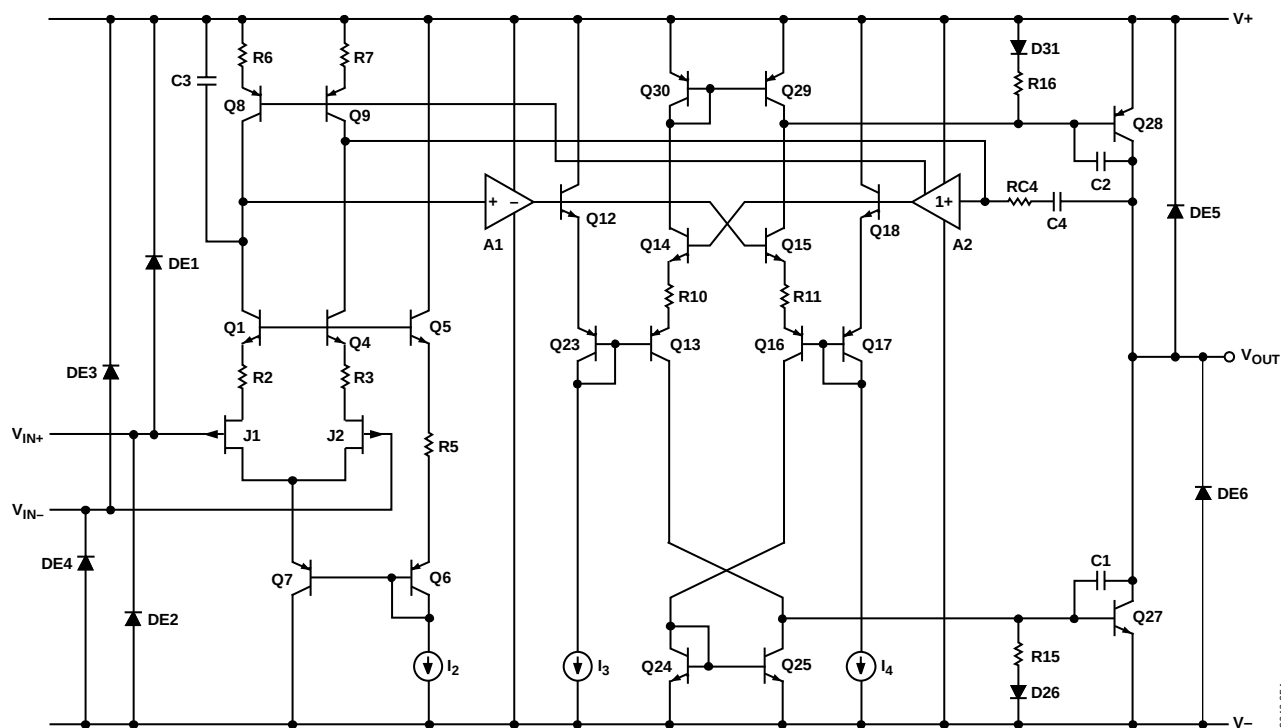

Figure 56. Simplified Schematic
The ADA4610-1/ADA4610-2/ADA4610-4 are manufactured using the Analog Devices, Inc. iPolar® process, a 36 V dielectrically isolated (DI) process with P-channel JFET technology. The unique architecture of the ADA4610-1/ADA4610-2/ADA4610-4 makes it possible to combine high precision and high speed characteristics into a high voltage, low power op amp. A simplified schematic for the ADA4610-1/ADA4610-2/ADA4610-4 is shown in Figure 56. The JFET input stage architecture offers advantages of low input bias current, high bandwidth, high gain, low noise, and no phase reversal when the applied input signal exceeds the common-mode voltage range. The output stage is rail to rail with high drive characteristics and low dropout voltage for both sinking and sourcing currents.